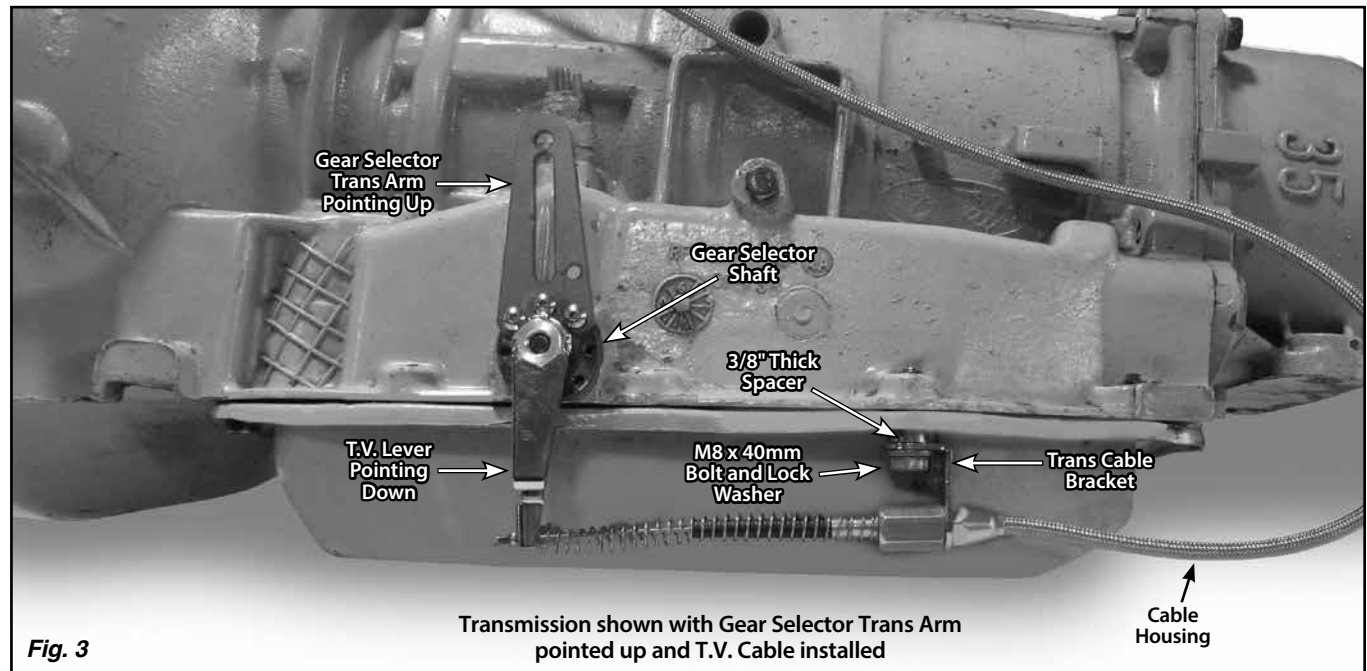

Fig. 3
Step 3: (Continued) Remove the original pan bolt. Install the supplied M8 x 40mm bolt with the supplied lock washer, flat washer, trans cable bracket, and 3/8" thick spacer installed onto the bolt in that order. The spacer will keep the T.V. cable in line with the T.V. lever. Make sure the vertical part of the trans cable bracket is positioned to the rear of the pan bolt as shown in Fig. 3.